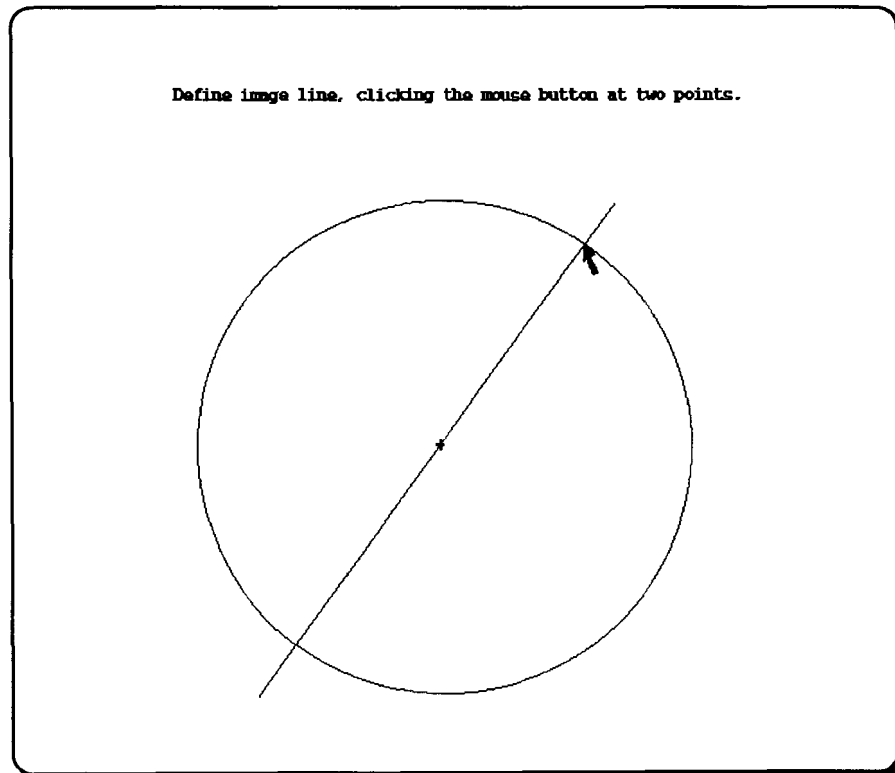

Figure 14 Defining the image line with mouse control.
- Click the mouse button to define the image line, as shown in **Figure 14**.